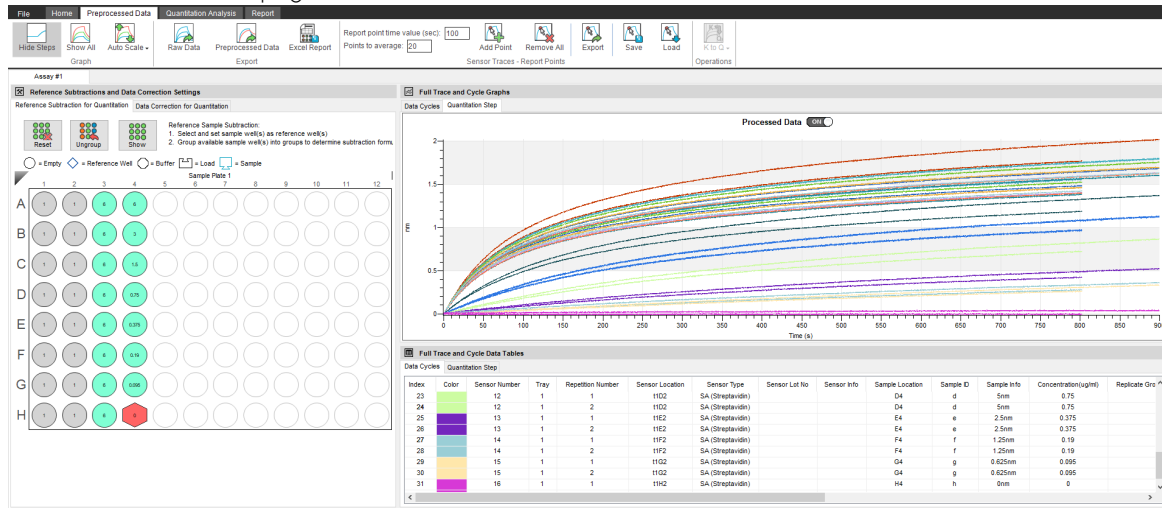

Figure 4-78: Kinetic Step Moved into Quantitation Mode in the Preprocess Data Screen
5. The software moves the raw or unprocessed data into quantitation mode in the Preprocess Data screen (Figure 4-78). You should now perform any reference subtraction or data correction before you move to the Quantitation Analysis screen. For details on preprocessing quantitation datasets, see “Preprocessing Quantitation Datasets” on page 189.